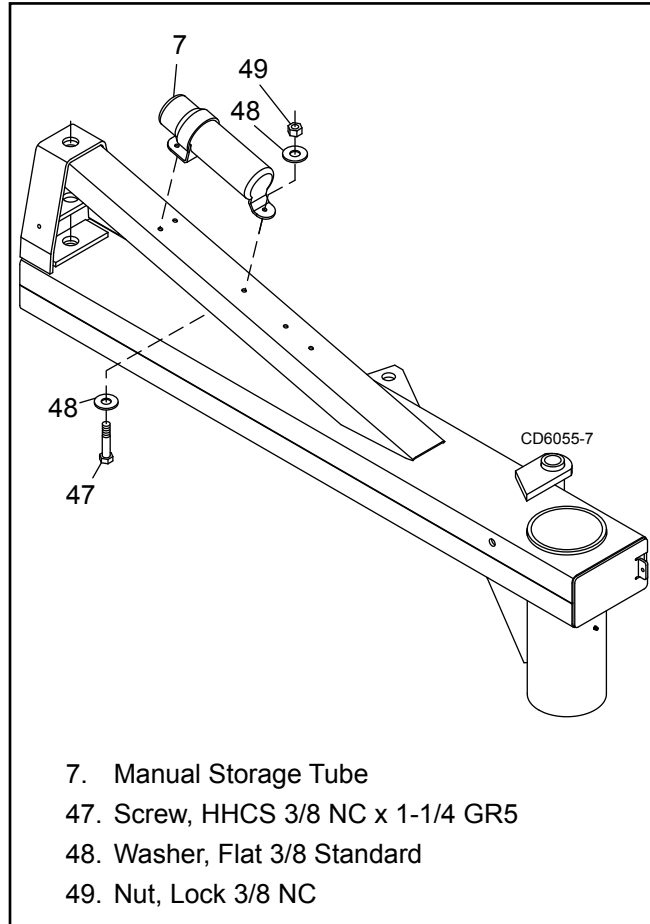

Figure 17. Manual Tube Installation
1. Place manual tube (7) over holes on top of boom assembly as shown in Figure 17.
2. Secure into position using three cap screws (47), six flat washers (48), (one on each side), and lock nuts (49).